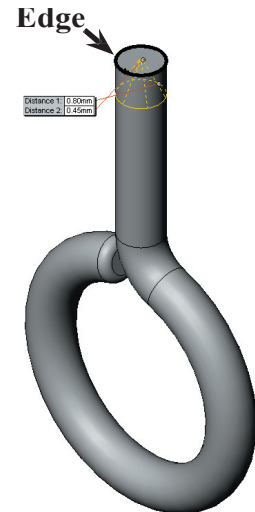
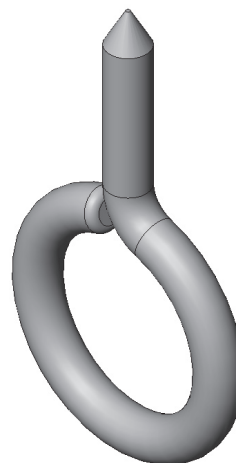

Fig. 35
Fig. 36
Step 5. Click the **top corner edge** of the eye screw, **Fig. 35** and click OK  in the Property Manager, **Fig. 36**.